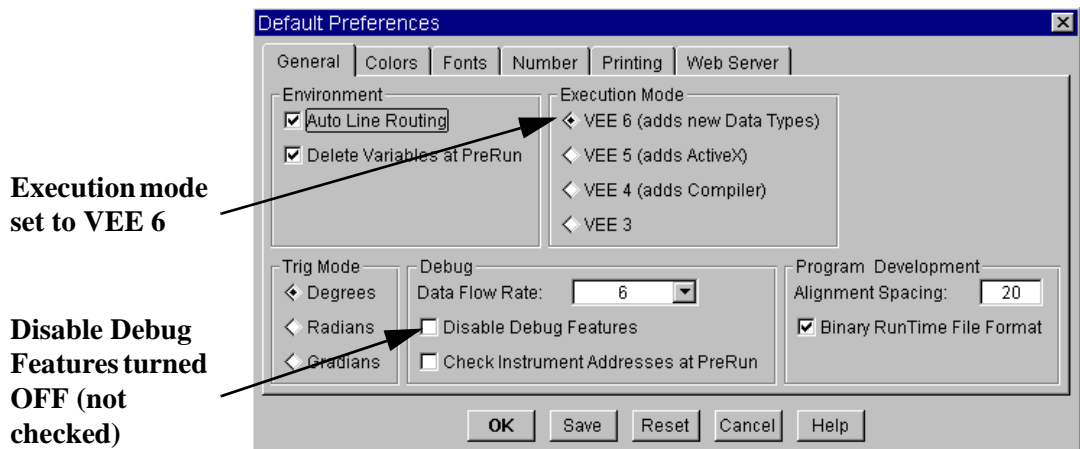

Figure 11-13. Changing the Execution Mode in Default Preferences
2. In the **General** folder (already displayed, since it is the first folder), under **Execution Mode**, select **VEE 6.0** as shown in Figure 11-13. In the same folder, make sure that **Disable Debug Features** is *not* selected. Click **OK**.